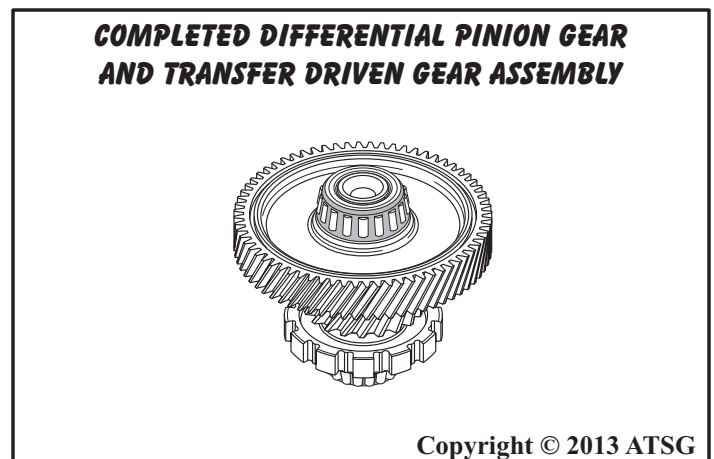

Figure 91
6. Set the completed differential pinion gear and transfer driven gear assembly aside for now, as shown in Figure 91.